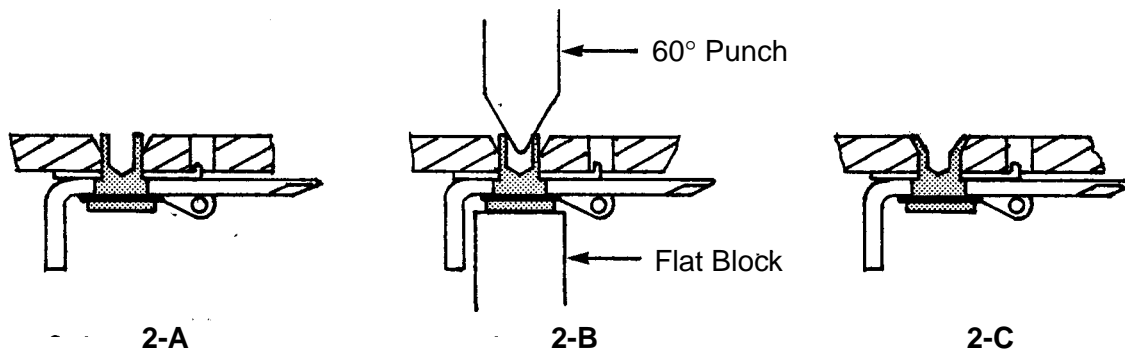

Figure 2 - Installation of Slide Assembly with a 2R078 Rivet
- 5.3.0.1 Attach the slide assembly with a 2R078 rivet as follows (see Figure 2):
- Step 2. Insert the rivet into the slide assembly and the prepared rivet hole as shown in Figure 2-A. Ensure that the tang of the latch guide engages into the retaining hole.
- Step 4. Firmly hold a 60° centre punch against the rivet shank as shown in Figure 2-B.
- Step 5. Using a suitable hammer strike the punch with sufficient force to flare the shop head into the countersink (see Figure 2-C).